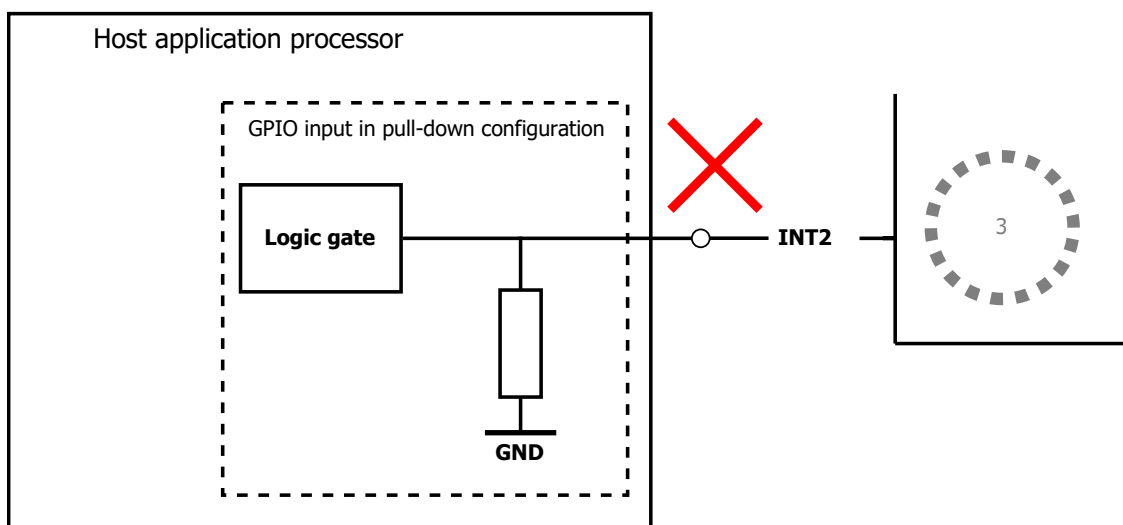

Figure 51: Connection that is not allowed in I²C and I³C before the pin 3 is configured to the output characteristics
- When the output characteristics of pin 3 is disabled (or not yet enabled), please do not connect pin 3 to a GPIO pin configured in the pull-down state, as shown in figure 51. Please consider this behavior especially during the startup of the device, since pin 3 is used in SPI Mode as CSB and therefore a connection to ground will trigger the SPI mode.